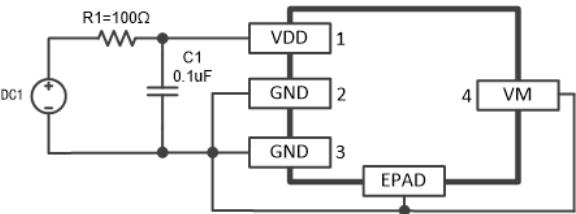

Figure5
- a. As shown in the figure5, connect the positive pole of DC1 to B +, and the negative pole to GND, and set the voltage to 3.6V;